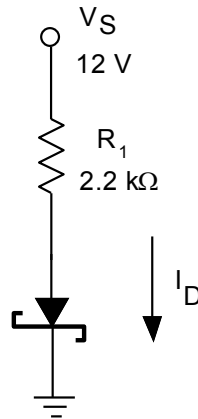

Figure 3-60.
- 3-40. A Schottky barrier diode is used in Fig. 3-60. Find the diode's forward current by using the knee-voltage diode model.
- 3-41. A Schottky barrier diode is used in Fig. 3-60. Find the diode's forward current by using the knee-voltage diode model. Assume that V_S is reduced to 3.3 V.
- 3-56. Rectifier and Schottky diodes also tend to become short circuits when they fail catastrophically. Find the current through resistor R_I and its power dissipation if the Schottky diode in Fig. 3-60 becomes a short circuit.